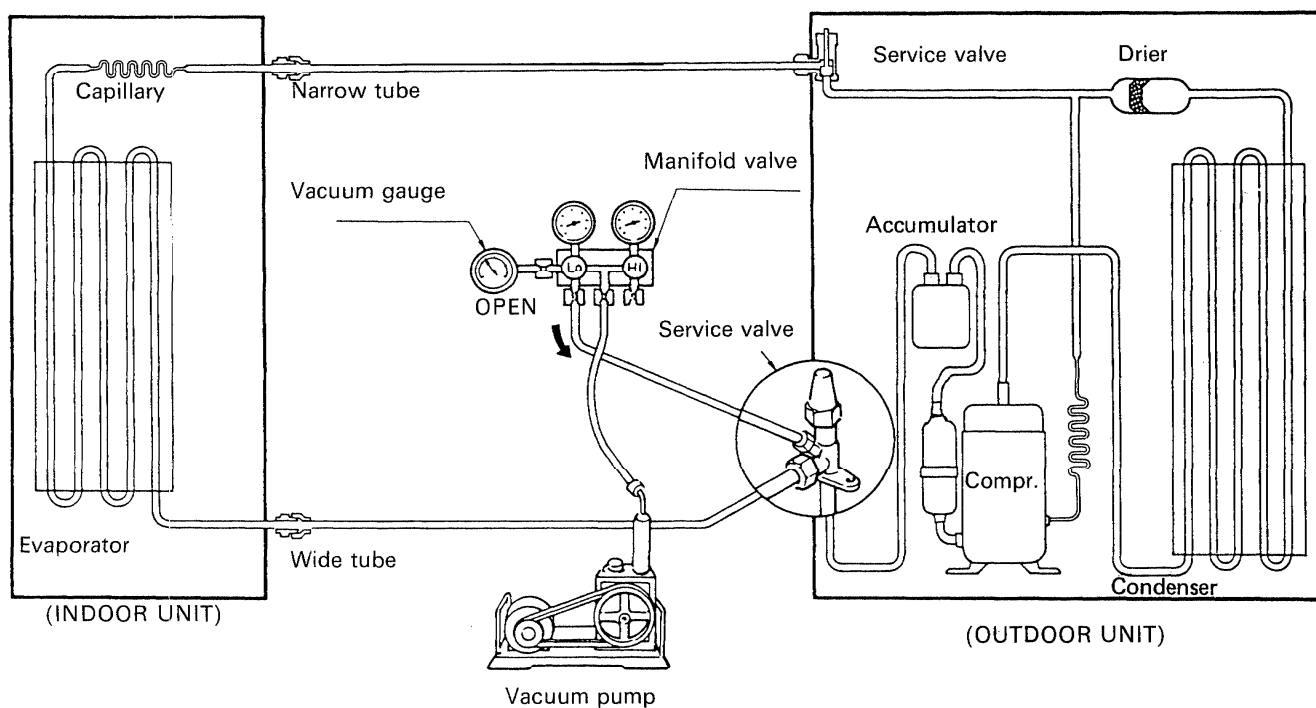

Fig. 7
- If no gas leakage is confirmed, Connect both vacuum pump and vacuum gauge to service valve through 1/4" port with a flare nut. See Fig. 7